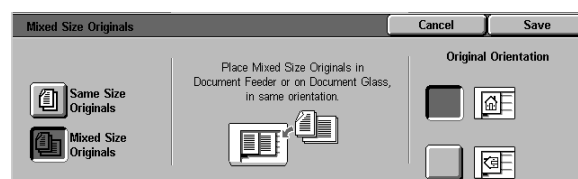

Figure 34: Mixed Size Originals screen with Mixed Size option selected
1 In the Added Features tab, select the **Mixed Size Originals** button. Selecting this button automatically turns the **Mixed Size Originals** feature on (Figure 34).
- Keep the **Mixed Size Originals** option selected if the original documents are different sizes (Figure 34).